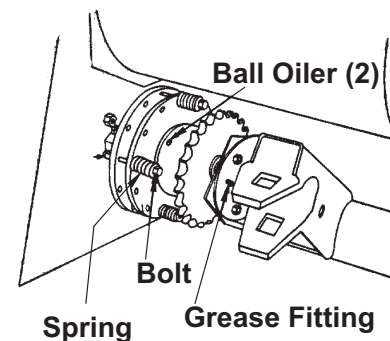

Figure 5-16 Pickup Clutch
1. Tighten the bolt to compress the springs until the coils are just touching. See Figure 5-16.